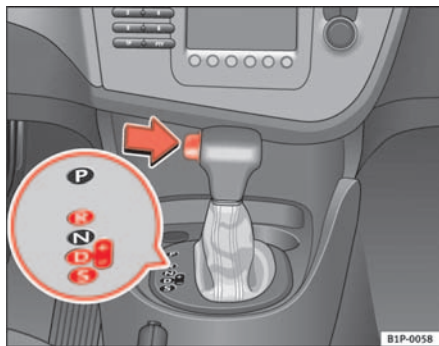

Fig. 121 Driving
- Press on the button on the selector lever knob (on the left, ⇒ fig. 121).